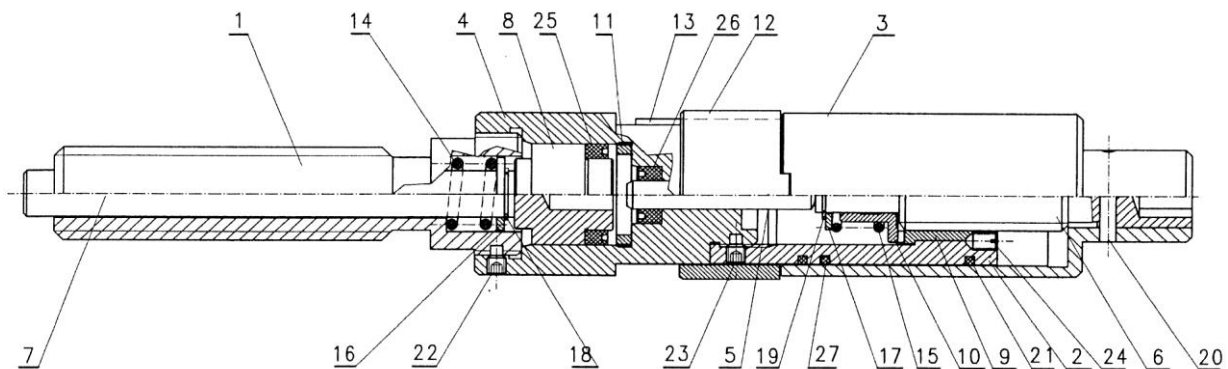

Fig. 4. Structure of the screw 3690-M.
6. STRUCTURE OF THE HYDRAULIC SCREW (fig.4)
7.1. PERIODICAL MAINTENANCE OF CLUTCH SCREW (pos. 6 fig. 4).